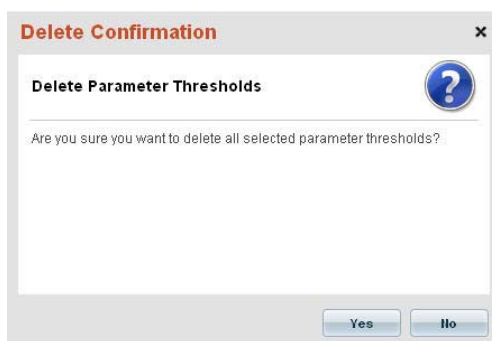

FIG. 262 Delete Confirmation dialog - Parameter Thresholds
- The system will prompt you to verify this action via the *Delete Confirmation* dialog before the selected Parameter Thresholds are deleted (FIG. 262).